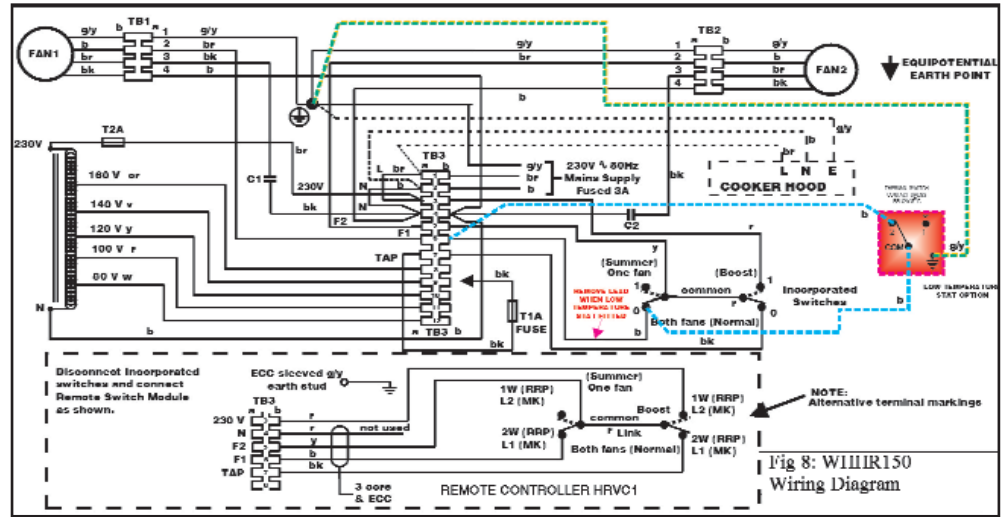

Fig 8: WHHR150 Wiring Diagram
- 4.5.1 If the WHHR is to be loft mounted, a remote fan speed control/summer switch (HRVC1) is required (see section 1.1). This will usually be situated in the kitchen and must be connected to the unit by 3-core and earth (CMA Ref. 6243Y) and 2-core and earth (CMA Ref. 6242Y) 1mm2 PVC covered cable in accordance with the relevant wiring diagram (Fig. 8 or 9).
**Note: The switch terminal markings differ according to manufacturer. Referring to Fig. 8 or 9: